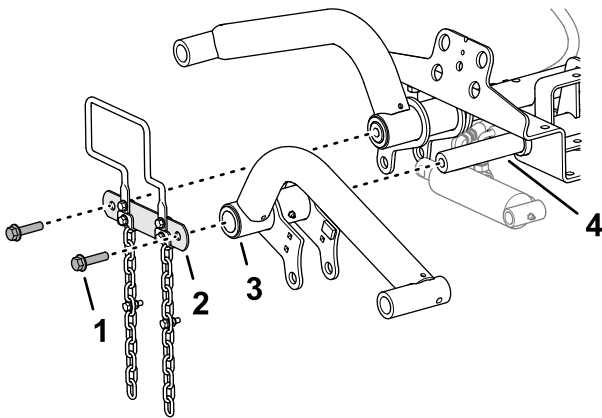

Figure 11
1. Assemble the lift arms onto the lift arm pivot shafts as shown in Figure 11.
2. Assemble pivot-shaft link to the lift arm pivot shafts (Figure 11) with the 2 flange capscrews (1/2 x 2 inches) that you removed in Preparing to Install the Lift Arms (page 16).